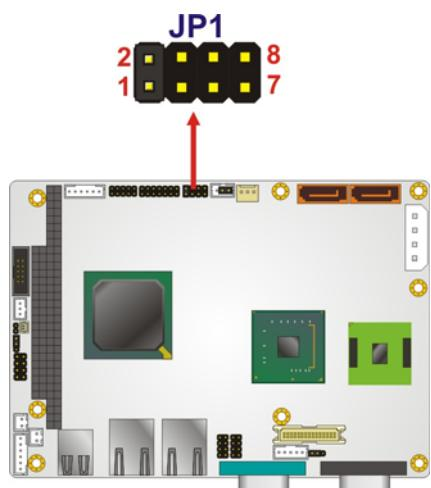

Figure 4-5: COM 2 Function Select Jumper Location
**Jumper Location:** See **Figure 4-5**